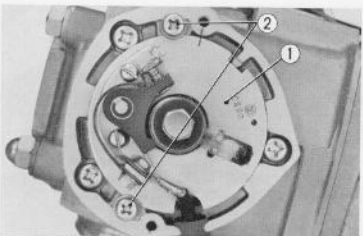

Fig. 5.7 Adjusting the ignition timing
- b. With the dynamo cover removed, rotate the generator rotor counter-clockwise until the "F" mark ① on the flywheel lines up with the alignment mark ② on the stator. (Fig. 5.6) In this position, the breaker point should just commence to open. This can be checked with a thin thickness gauge. If adjustment is necessary, loosen the base plate screws ② and rotate the base plate ① by inserting a screwdriver into the adjusting slot to obtain the proper timing. (Fig. 5.7)